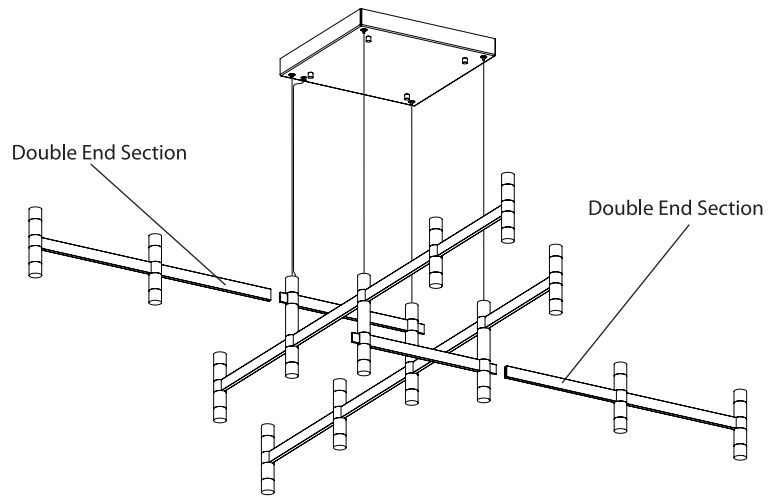

Figure 4
10. Install two Double end Sections to suspended Section 1 and 2 in positions shown (Figure 4) by connecting the plug (K), sliding bar over wing (L), securing in place with countersunk screws (M).
5. Twist together the outer braided conductor to form the negative wire of the fixture, then strip 5/8" off the end of the inner stranded conductor to form the positive wire of the fixture (Fig. 4).